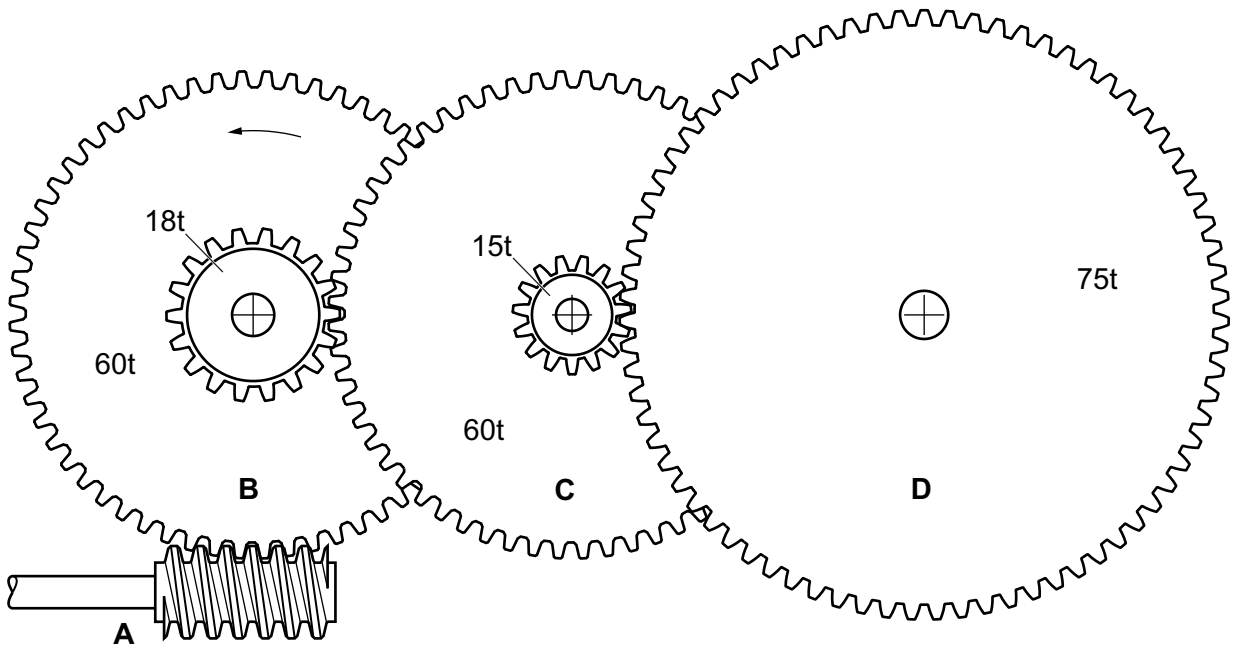

Fig. 10.4
- (c) Fig. 10.4 shows a compound gear system.